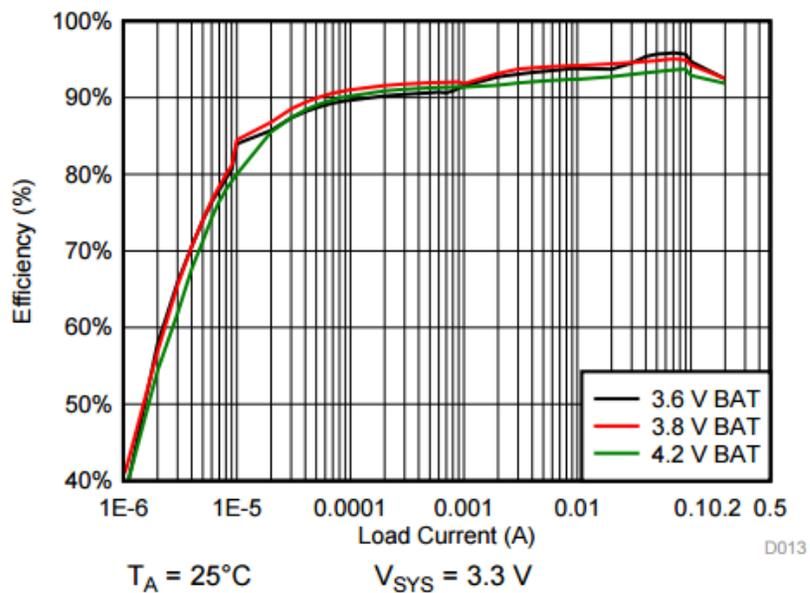

Figure 8. TIDA-00761 System Efficiency vs Battery Voltage ($V_{SYS}=3.3V$)
- Figure 8 shows the system efficiency across the different battery voltage with $V_{SYS}=3.3V$.